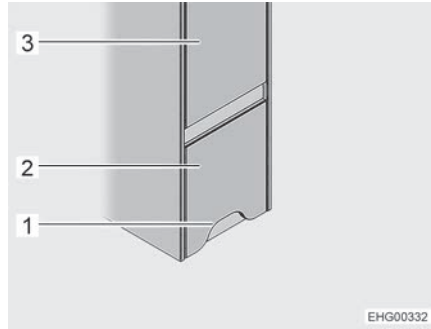
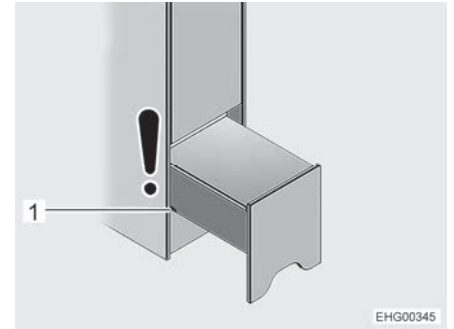

Fig. 80 Access assistance (closed)
Fig. 81 Access assistance (night position)
**Position** The access assistance has been installed on the right side of vehicle, underneath the wardrobe (Fig. 80,3) in front of the rear bed.
- ▷ The toilet compartment door is opposite to the access assistance. As long as the access assistance has only been pulled out partially ("night position", see Fig. 81), it is still possible to open the toilet door. If the access assistance has been entirely pulled out to obtain access to the storage compartment, it is no longer possible to fully open the toilet compartment door.
- Grab the access assistance (Fig. 80,2) by the cut-out (Fig. 80,1), lift it slightly and pull it out up to the first groove (Fig. 81,1) (night position).